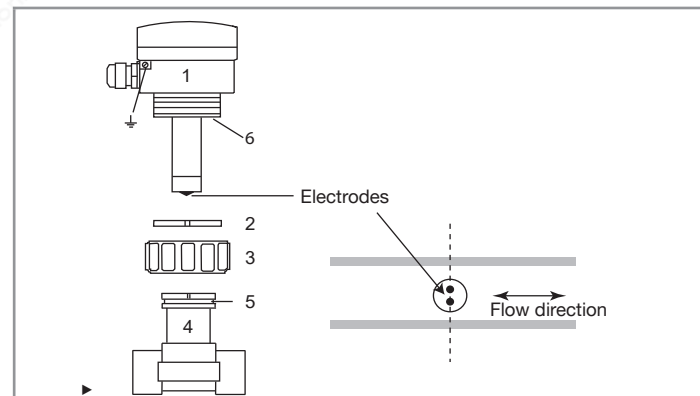

Fig. 11: Installation into the pipe of the flowmeter with a G2" nut
- Install the S020 fitting (mark 4, Fig. 11) on the pipe.